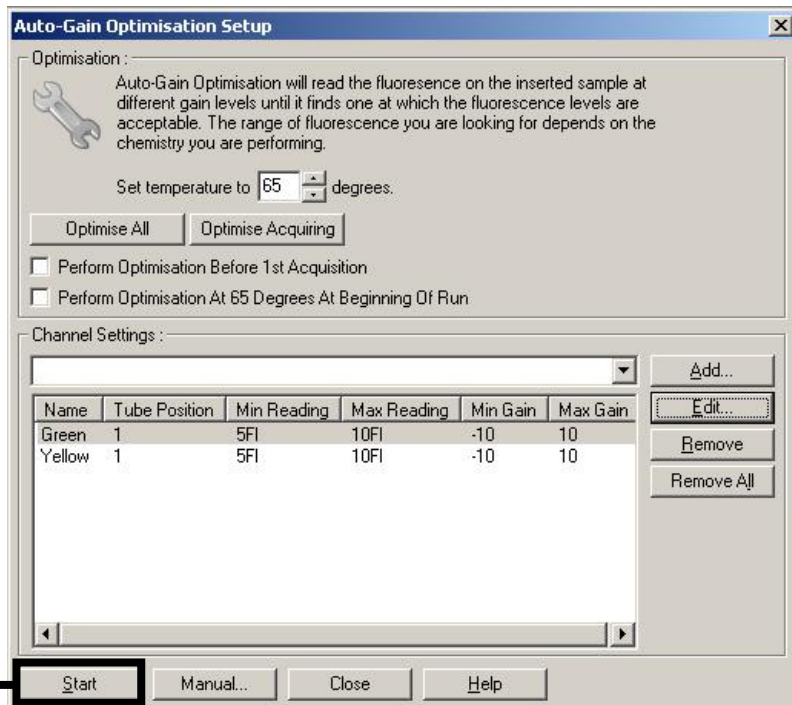

Figure 3. Starting the gain optimization.
- Click **Start** to begin the gain optimization for the first *artus* assay (Figure 3).